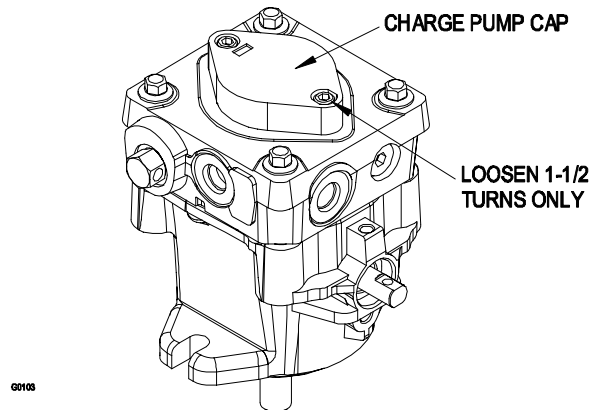

FIGURE 4
- g) If either drive wheel does not rotate, one or both of the charge pumps (located on the top of the main pump as shown in Figure 4) may have lost their "prime". Refer to Section 4.1.10.
Air must be purged from the hydraulic system when any hydraulic components, including oil filter, are removed or any of the hydraulic lines are disconnected. The critical area for purging air from the hydraulic system is between the oil reservoir and each charge pump located on the top of each variable displacement pump. (See Figure 4).
- e) To “prime” charge pump, loosen two hex socket head capscrews (shown in Figure 4) **1-1/2 turns only. Make sure engine is not running.** Lift charge pump housing upward and wait for a steady flow of oil to flow out from under housing. **Retighten capscrews.** Do this for both pumps. Note: Hydraulic reservoir can be pressurized to up to 5 psi (34 kPa) to speed this process.